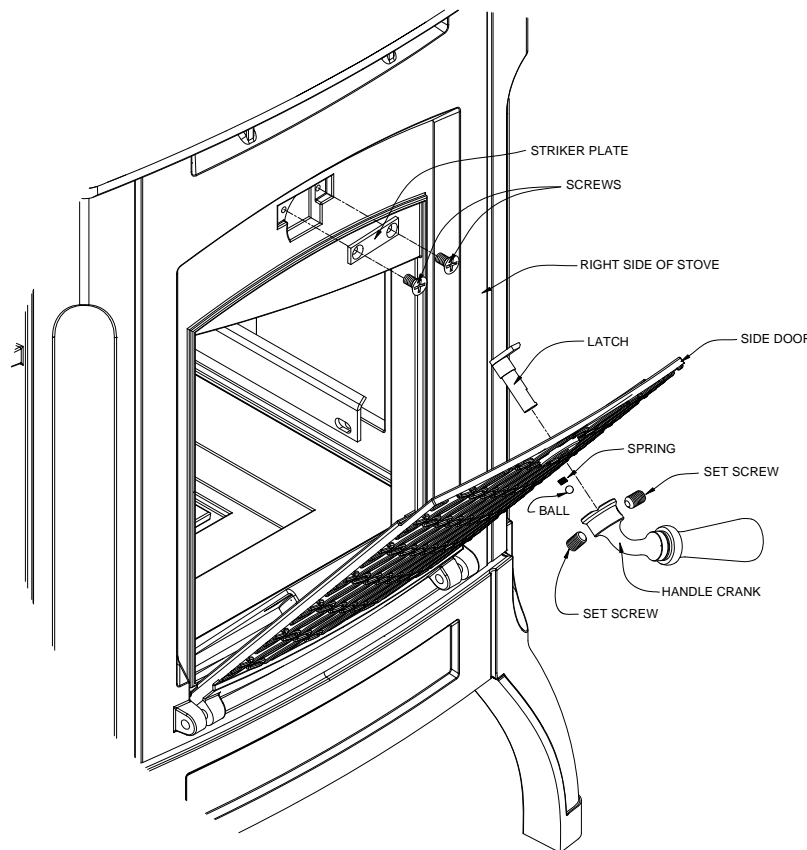

Figure 1: Spring and Ball Handle Shown ((yours may differ))
- 1) Open the side door by turning the handle counter clockwise. Use the 5/32 Hex Wrench to remove the set screw(s) from the handle crank. Remove the entire handle assembly – crank, latch, any springs, ball bearings and washers (Refer to figure 1).
- 2) Remove the striker plate by removing the (2) Phillips head screws (Refer to figure 1). Save the screws for later use.